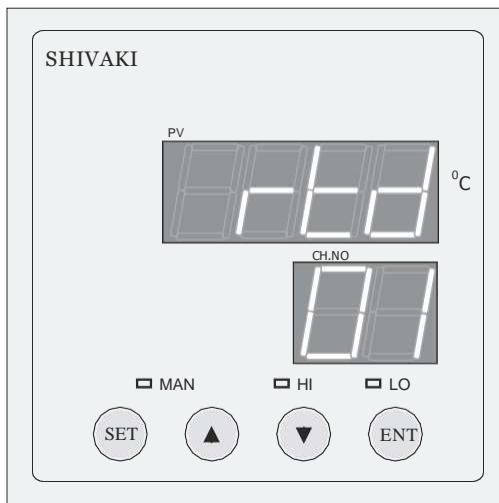

Fig. 1.9.1
The top display (PV) shows the presetted input. The bottom display Shows the channel no for which the Setting is done Refer Fig.1.9.1 Example You want to select 4-20mA